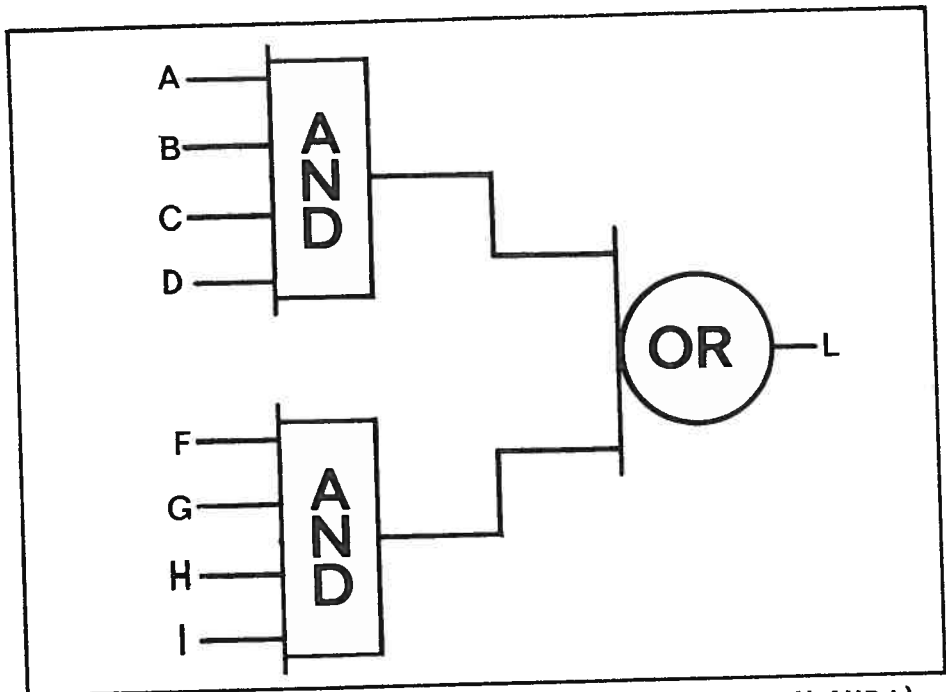

Figure 1-6: Inputs (A AND B AND C AND D) OR (F AND G AND H AND I) must be on in order to get an output at L.
1. Control design is based on simple English logic (AND, OR, NOT). This system is the easiest to design and read (Figure 1-6). Each circuit reads just like the sequence of the machine's function. Compare this to NOR or negative logic where one's thinking must be turned upside down. Or relay logic where one has to trace from one line in a ladder diagram back to other lines to see which sequence is occurring between relays.